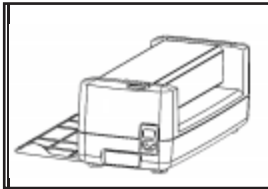

Fig. 1
1. Connect the correct electrical power. (Fig.1)